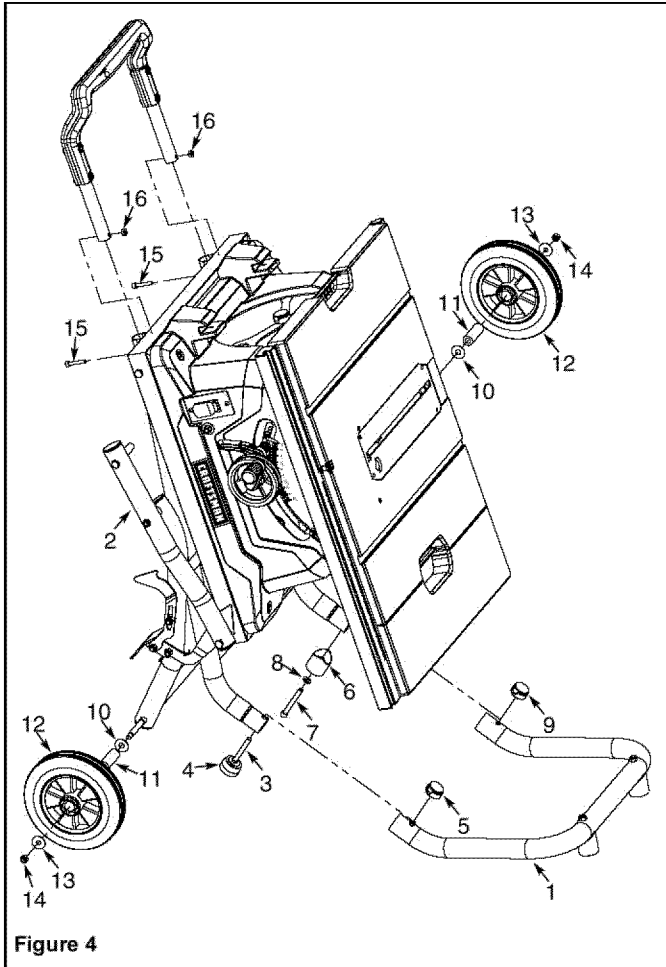

Figure 4
- Attach the handle assembly to leg stand assembly (2) with two M6 x 35 socket head bolts (15) and M6 hex nuts (16) as shown in Figure 4.